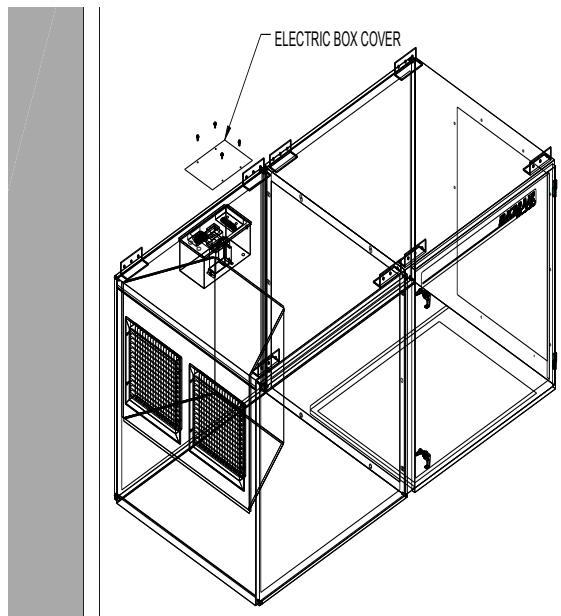

FIGURE 3
- Remove electrical box cover located on top of the MC 3000 Blower Module (see **Figure 3**).